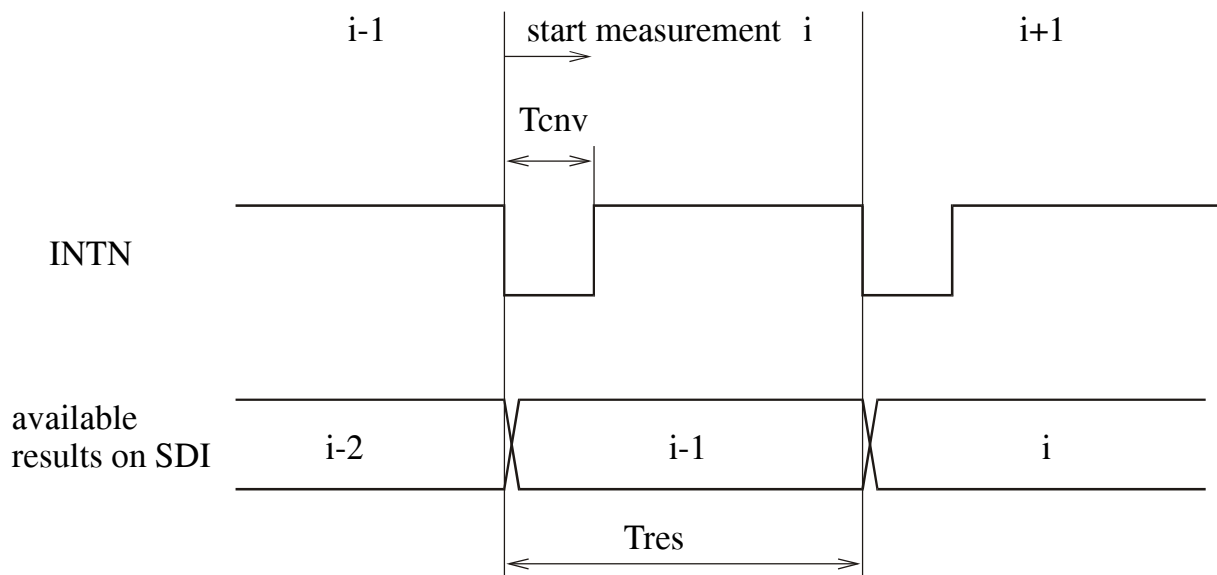

Figure 5: INTN pin in modes 1 and 2
- 2) In measurement modes (MMS and MMD) the INTN pin is used to synchronize the SDI bus operations (see figure 5).